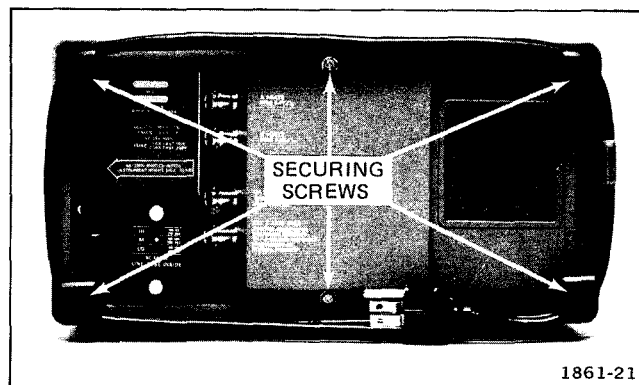

Figure 6-1. Removing the wrap-around cabinet.
4. Remove the six screws indicated in Figure 6-1 and remove the rear cabinet frame (with feet and screws) from the instrument as an intact assembly.